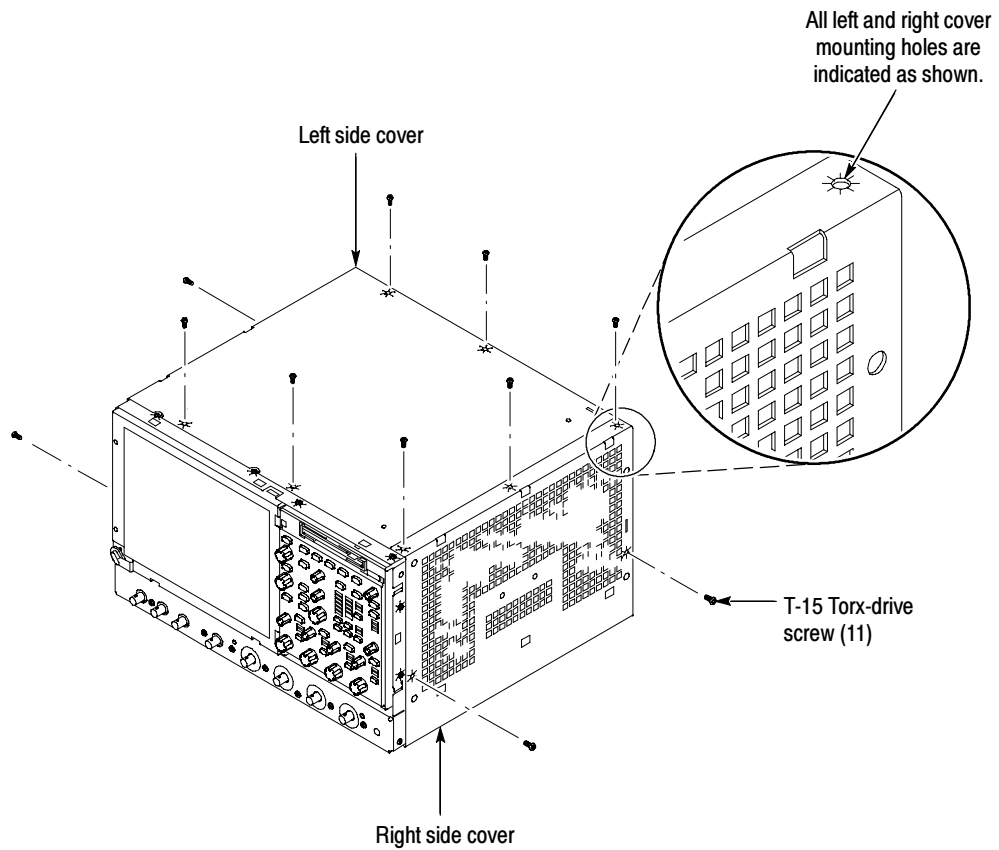
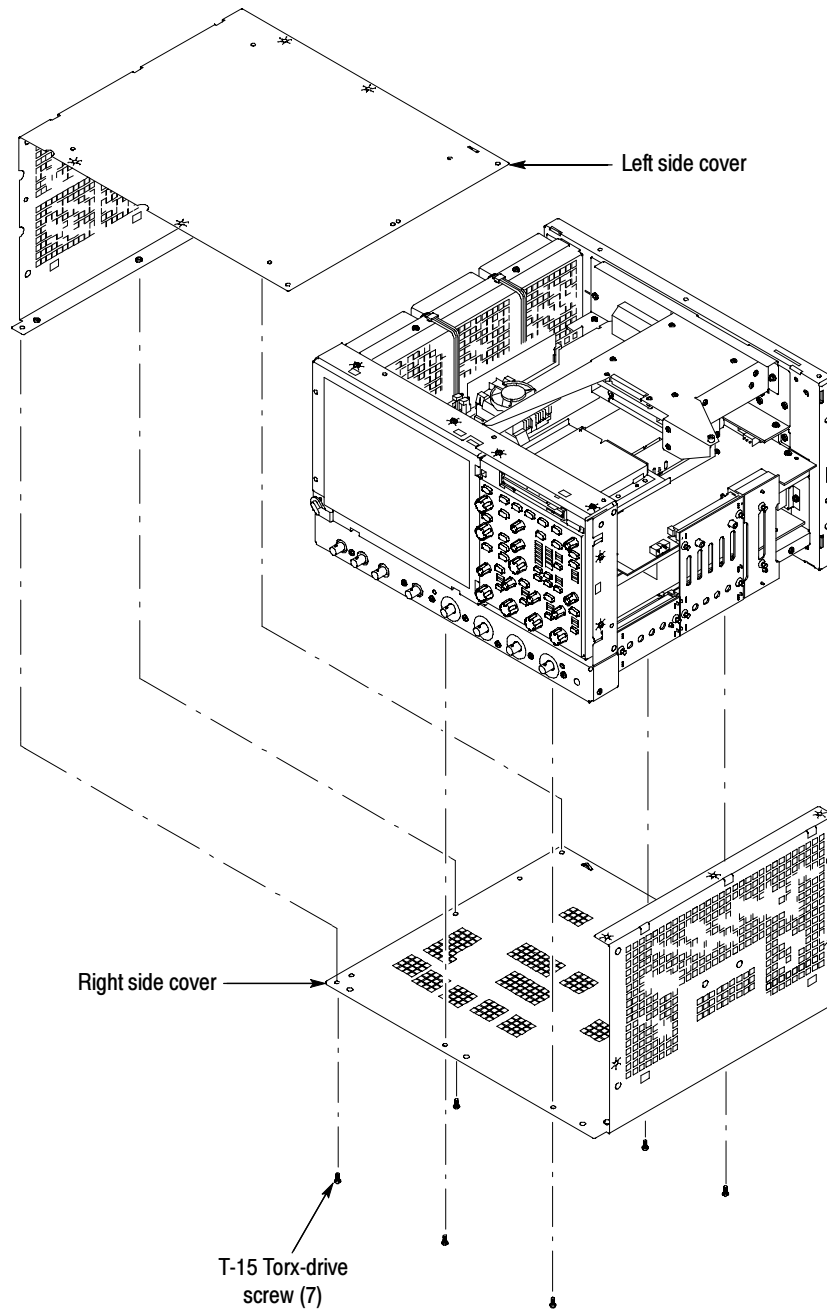

Figure 3: Cover removal
Figure 4: Cover removal
8. Remove the left and right covers (see Figure 3 and Figure 4).
- b. Remove the 11 T-15 Torx-drive screws that secure the covers to the top and both sides of the chassis (see Figure 3).
- c. Remove the seven T-15 Torx-drive screws that secure the covers to the bottom of the chassis (see Figure 4).